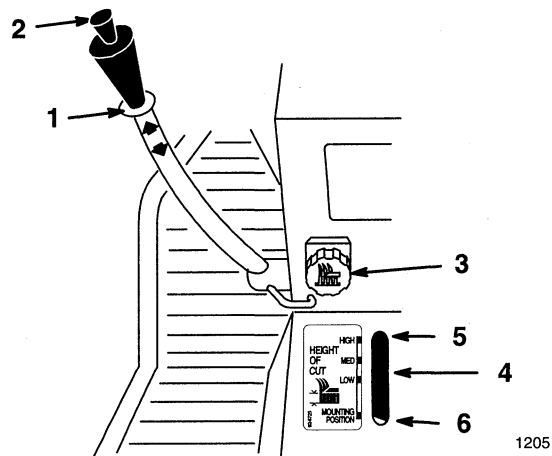

Figure 15
The attachment lift lever (Fig. 15) is used to raise and lower various attachments.
The Dial-A-Height control (Fig. 15) is used to limit the downward travel of the attachment. The Dial-A-Height knob is rotated to change the location of this stop, up or down.
1. Raise the attachment lift lever: Refer to Raising Attachments. In the raised position the Dial-A-Height knob (Fig. 15) can be rotated to change the stop location. Turn clockwise to raise and counterclockwise to lower the height of the attachment.
2. The Dial-A-Height indicator (Fig. 15) will show the change, high to low, in attachment lift height as adjustment is made.